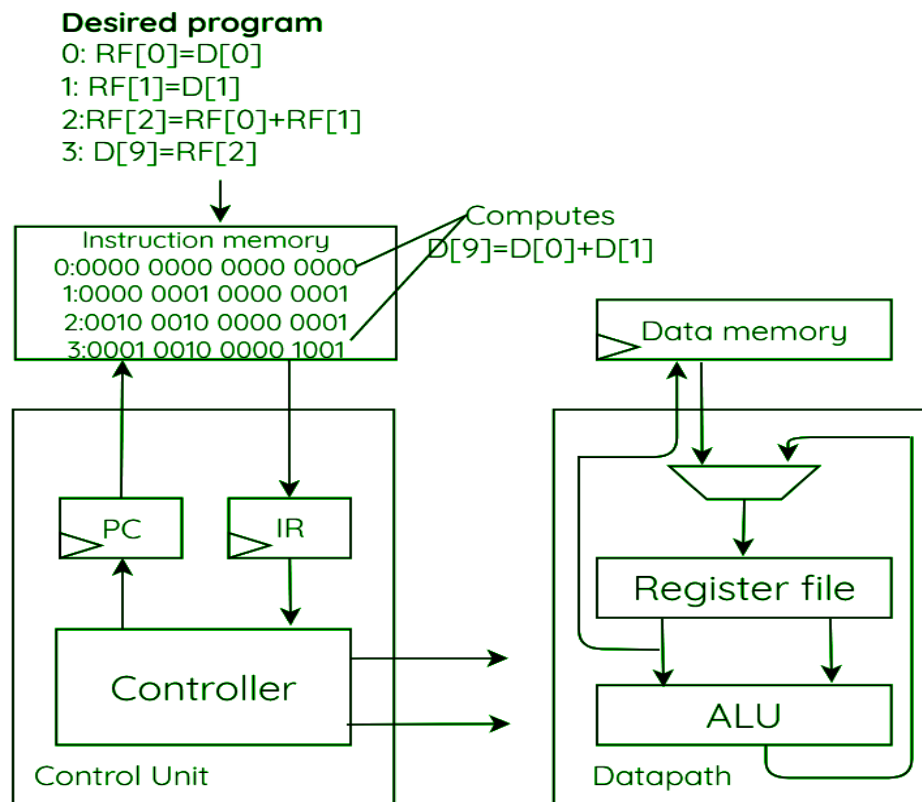

Figure1. Example processor design
Figure1 illustrates an example of a general-purpose processor. In the control unit, you will have a **program counter (PC) register** to keep track of the next instruction that is going to be executed. **Instruction register (IR)** will fetch that “next” instruction from the instruction memory. The controller FSM will **decode the instruction** in the IR and send the control signals to the datapath accordingly. There are two additional memory units to **register files** here, **data memory and instruction memory**. Data memory is to provide additional space for data since register files offer very limited space, and instruction memory is where the program (instructions) to be run is stored.